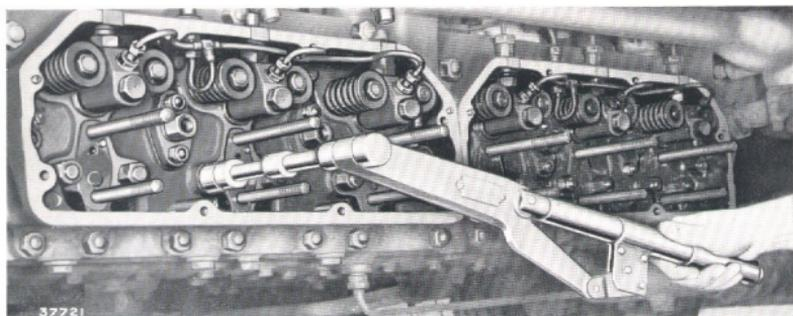
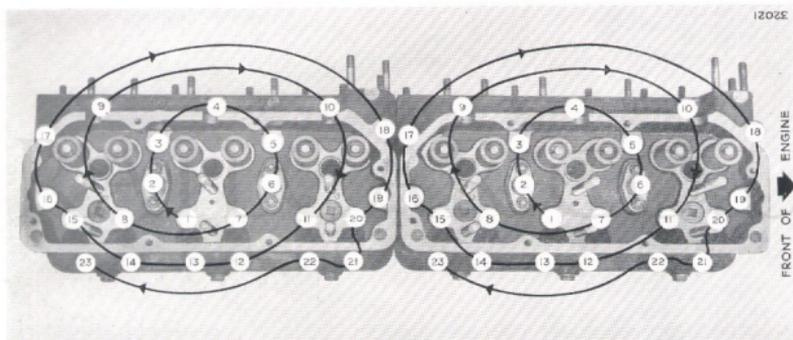

Fig. 23. Tightening head nuts with torison spanner.
Fig. 24. Correct sequence of tightening head nuts.
4. To ensure freedom from distortion and gasket leaks, the cylinder head nuts must be tightened down evenly in a definite order, starting at the centre and working outwards, as shown in Fig. 24. First tighten down with a short spanner, then with a torsion spanner set at 150 to 160 lb./ft. (20.5 kg./m. to 22 kg./m.) (see Fig. 23). A torsion spanner set at 80 to 85 lb./ft. (11 to 11.7 kg./m.) should also be used for the $\frac{3}{8}$ in. dia. B.S.F. nuts along the right-hand of the cylinder heads.